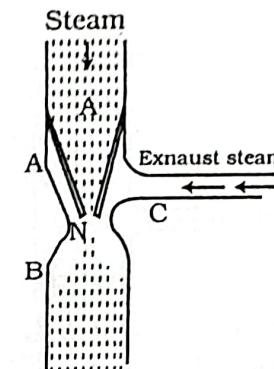

Fig. 6.13
(8) The Steam Injector : It is a simple device to accelerate the ejection of the exhaust steam from the cylinder of a steam engine, and consists of a tube A, (Fig. 6.13), narrowing down into a nozzle N at its lower end, inside another tube B, having a side-tube, C. Which is connected to the cylinder of the engine.